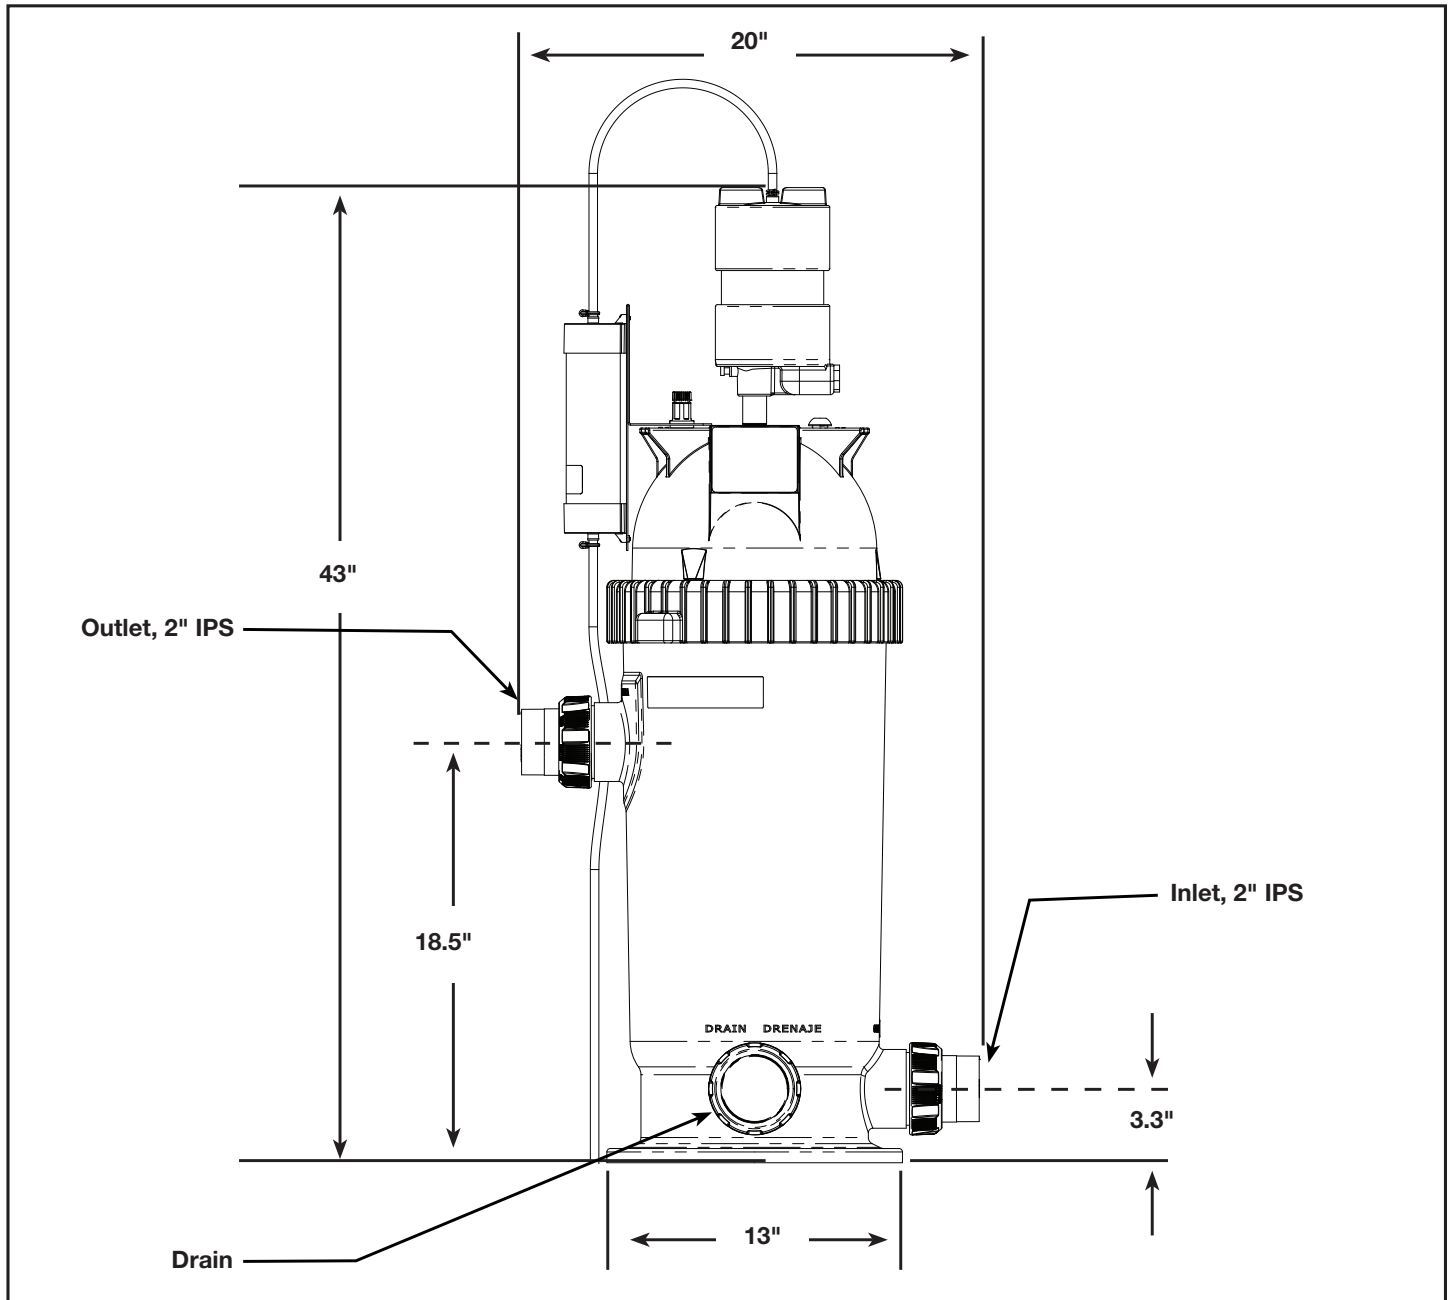

Figure 2. Critical Dimensions
Use appropriate NSF approved primer and cement to plumb into the circulation loop. Before placing the MDV on your equipment pad, note clearance dimensions of 4" around and 20" above. Refer to Figure 2 for critical dimensions.
- To winterize, drain the MDV by loosening the unioned cap near the bottom of the unit (labeled "DRAIN"). See Figure 2.